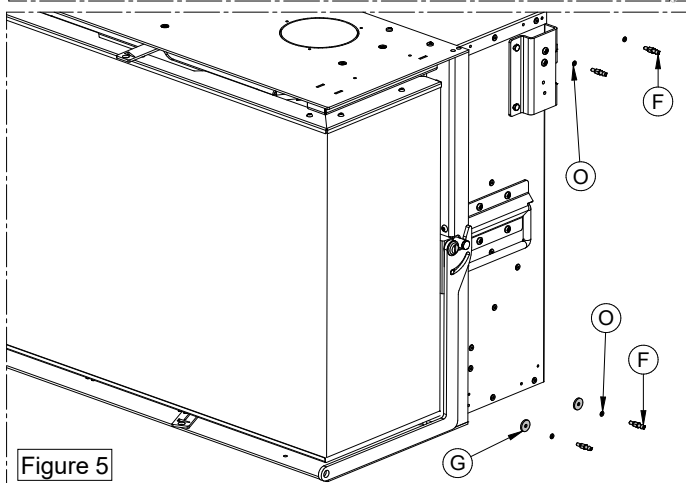

Figure 5
- Remove the product from the pallet using a trolley, lifting it from the rear (Figure 5).
- 5) Install the ventilation bar (P) and supports (O) and (N) using the 2 screws (M), see Figure 5. Then reassemble the previously disassembled components.
- 5) Fit the pins F on both sides, tightening them and using the corresponding washers O, and inserting the washers G only in the lower part, see Figure 5.
- 5) Install the supports F with the screws H and install the shims G at the bottom, see Figure 5.